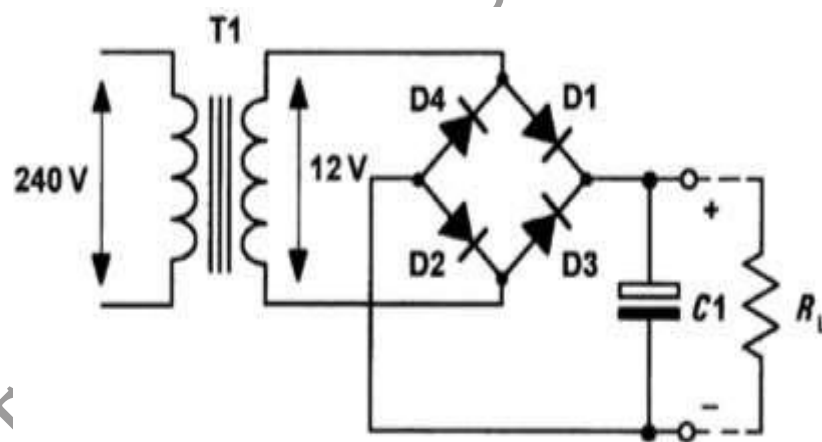

Figure 1.14 Bridge rectifier with reservoir
- Fig. 1.14 shows how a reservoir capacitor (C1) can be added to maintain the output voltage when the diodes are not conducting.